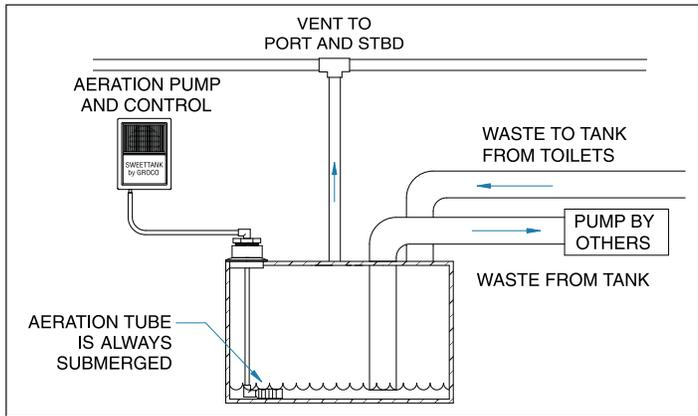

FIGURE-1
**Tank-Top Installation (see Figure-1):**